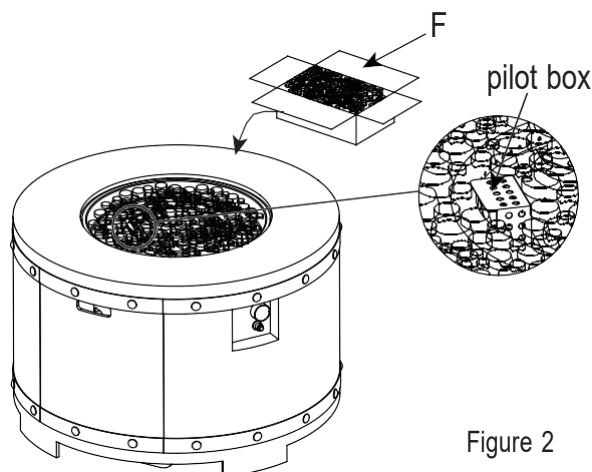

Figure 2
- Open the box of lava rocks, put the lava rocks (F) into the fire bowl of the fire table, (see Figure 2). A gas fire pit requires 13.2 lbs lava rocks.